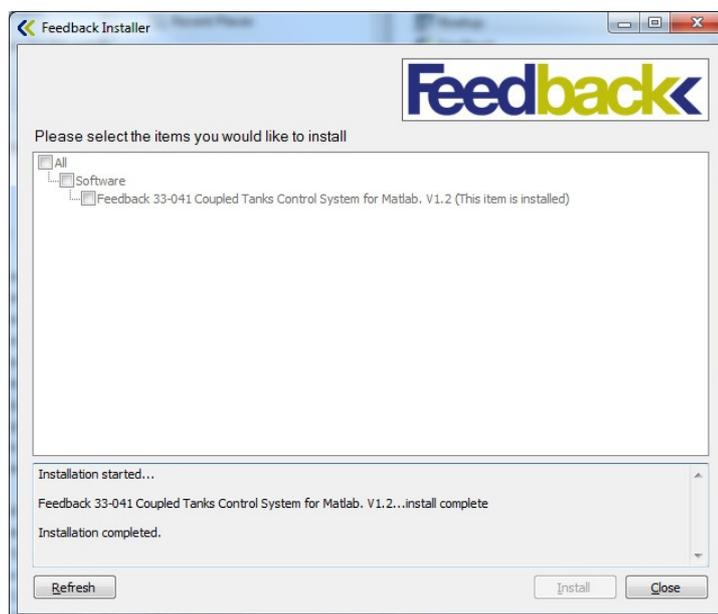

Figure 25 Program Installation Manager window
11. When software is installed the 'Program Installation Manager' will show the software is installed (Figure 25). Click 'Close' the installation manager.